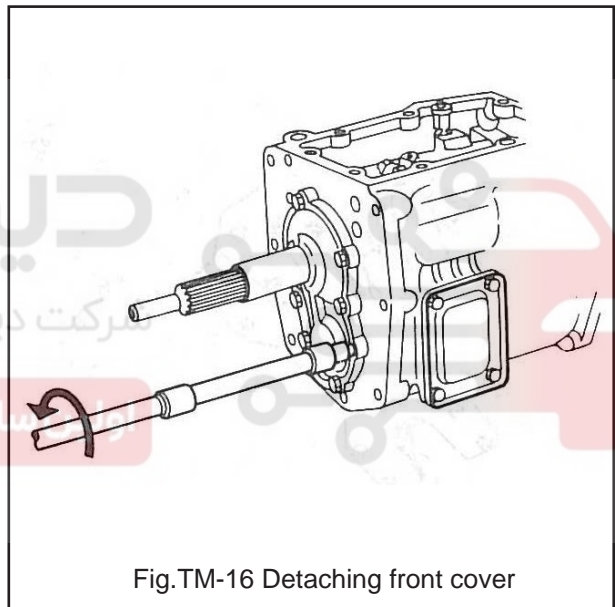

Fig.TM-16 Detaching front cover
10. Remove front cover securing bolts and detach front cover. See Figure TM-16.